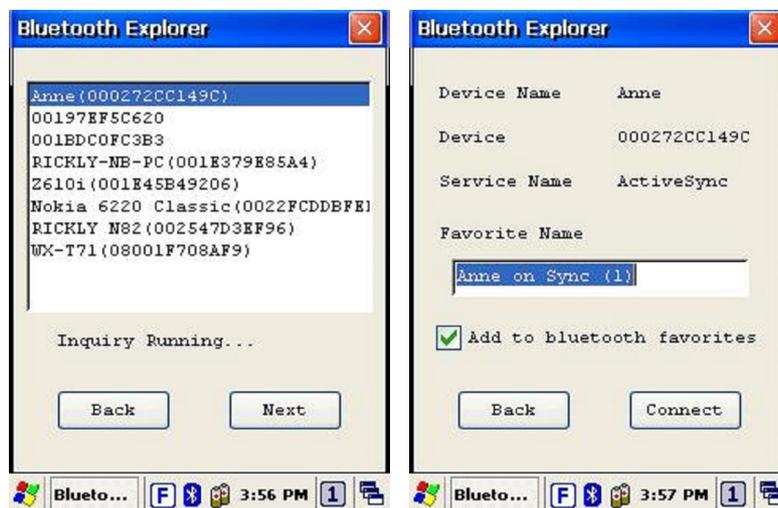

Figure 3-31 Bluetooth ActiveSync
15. After press **Next** button, it will start to search device like *Figure 3-31*.